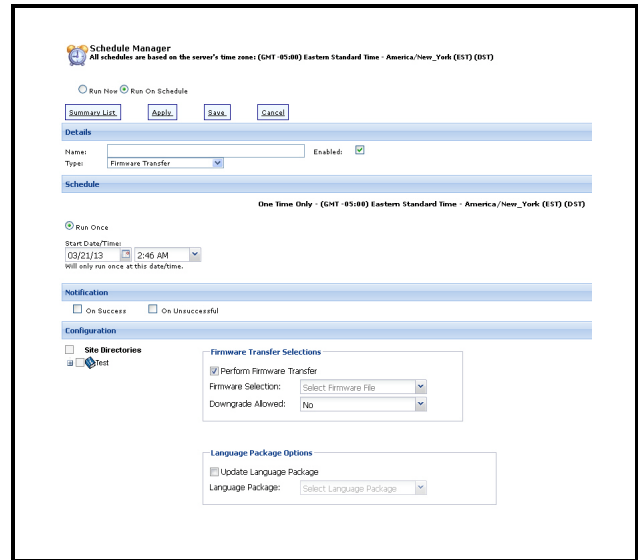

Figure 6-32 - Schedule Firmware Transfer
- If you choose to Run the Firmware Transfer on a schedule (**Figure 6-32**):
the **Language Package** drop-down list, and selecting the target control systems where the update will be applied. The language package update activity can be run exclusively or as a sub-activity of Firmware Transfer via the Firmware Transfer Scheduler (*Figure 6-32*).